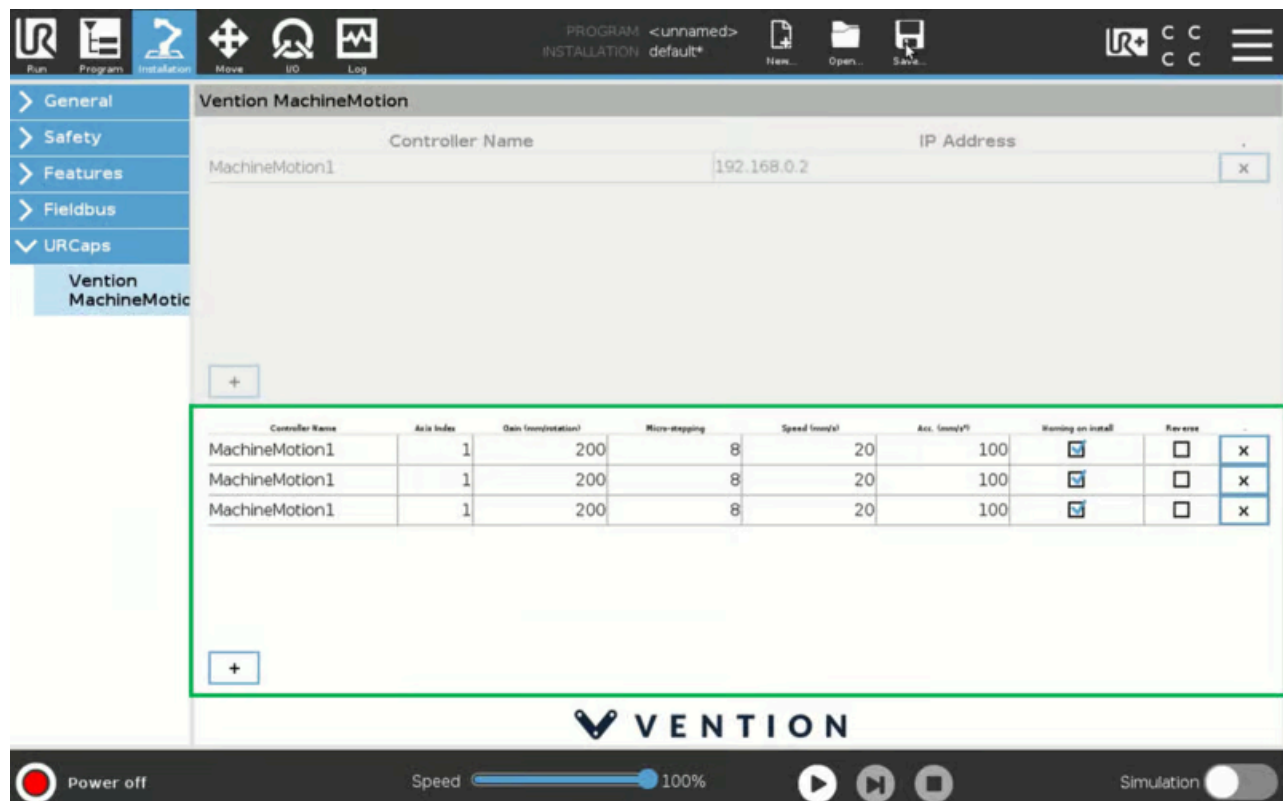

Figure 11: Lower window of the Vention URCap configuration screen
The lower window of the Vention URCap for Linear Motion defines actuators for linear axes of motion (see Figure 11). For example, the system shown in Figure 11 has three actuators linked to the controller, which is called **MachineMotion1**. These actuators are plugged into drive ports one, two, and three of the controller, hence the (1), (2), (3) appearing under the **Drive #** setting.